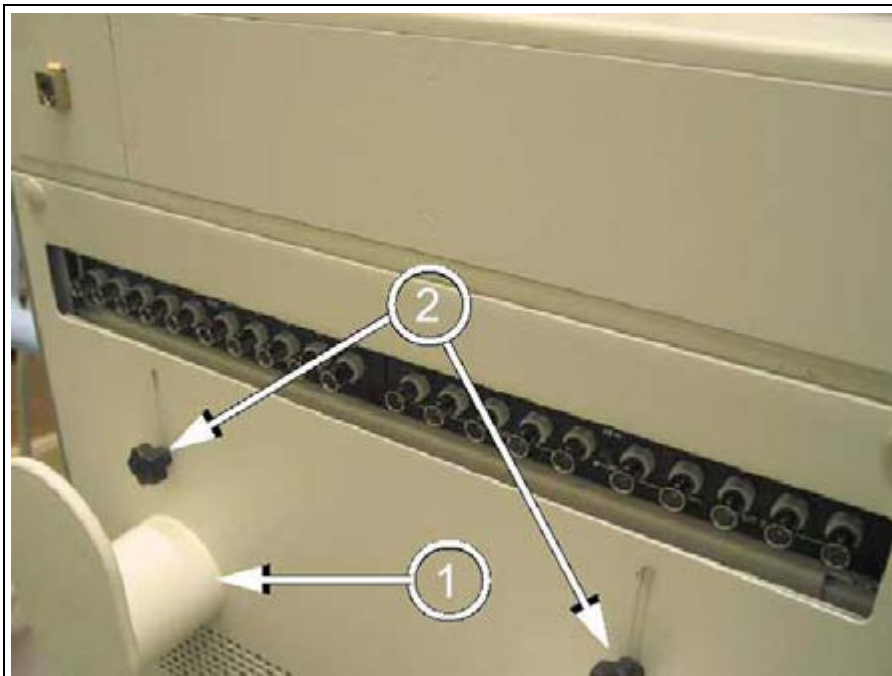

Fig. 7: Slider
15. Mount the cable holders (1/ Fig. 7 / p. 10) from the old rear cover on the new rear cover.
16. Mount the slider (2/ Fig. 7 / p. 10) on the new rear cover.